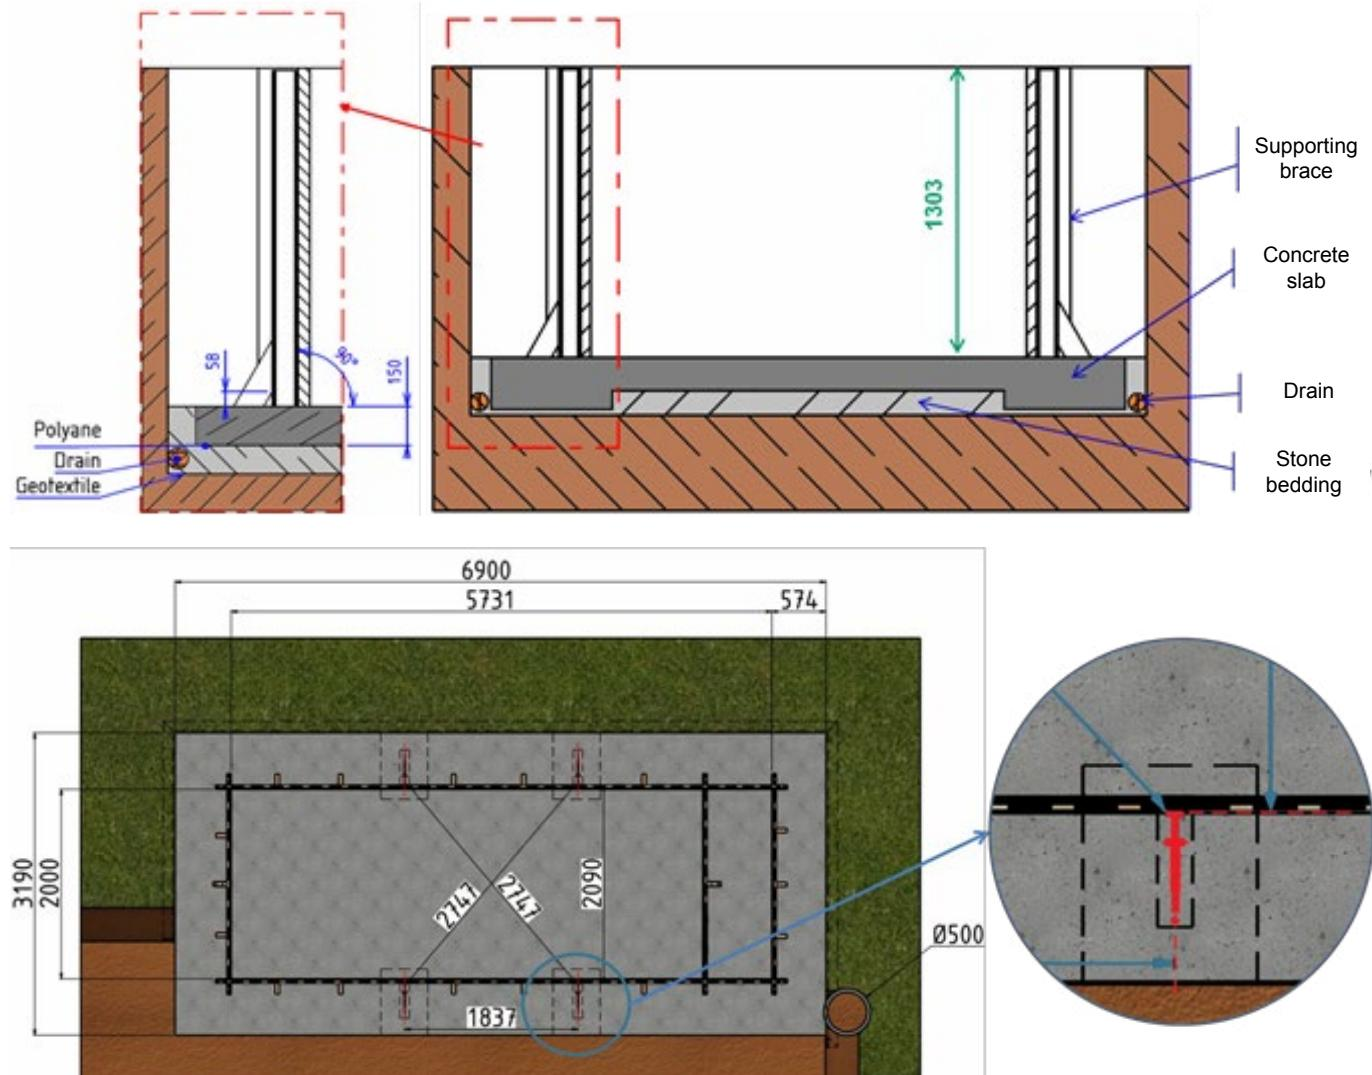

Figure 4 – Location of the supporting braces
**TIP:** You can use the supporting braces to visualise how high the concrete slab should be once it has been poured. To do this, taking the top of the pool wall, below the coping, as level 0 (underneath the coping, see *Figure 4*), measure 1.303 m and mark this distance on the front of the supporting brace. This mark will correspond to the height of the finished concrete slab.
- ! Check that all the dimensions quoted in *Figure 4* are correct before proceeding with the next step.